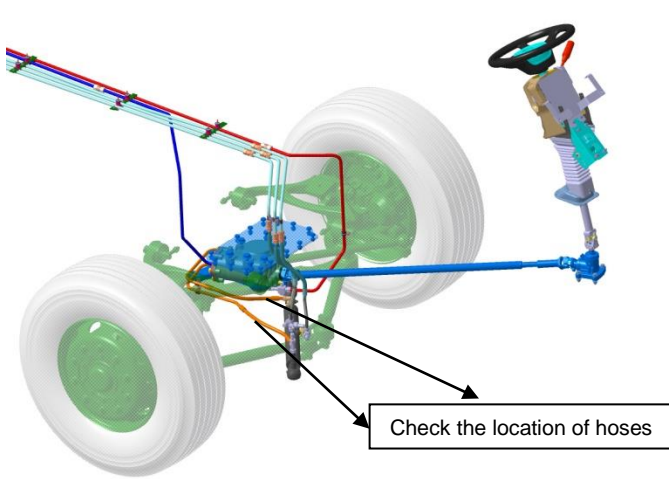
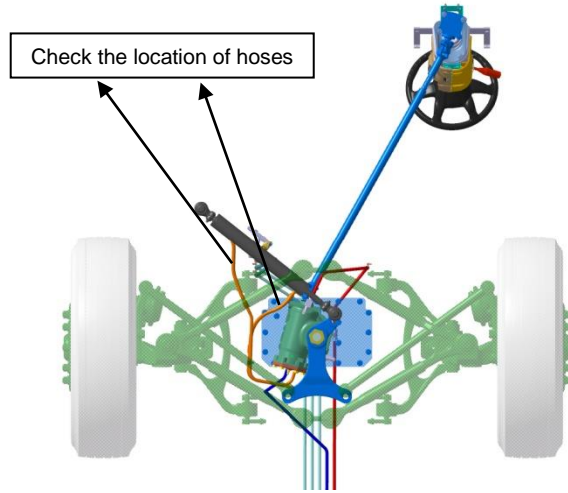

Figure-3
Figure-4
3. Check the steering hoses shown in the picture below (See Figure-3 and Figure-4)